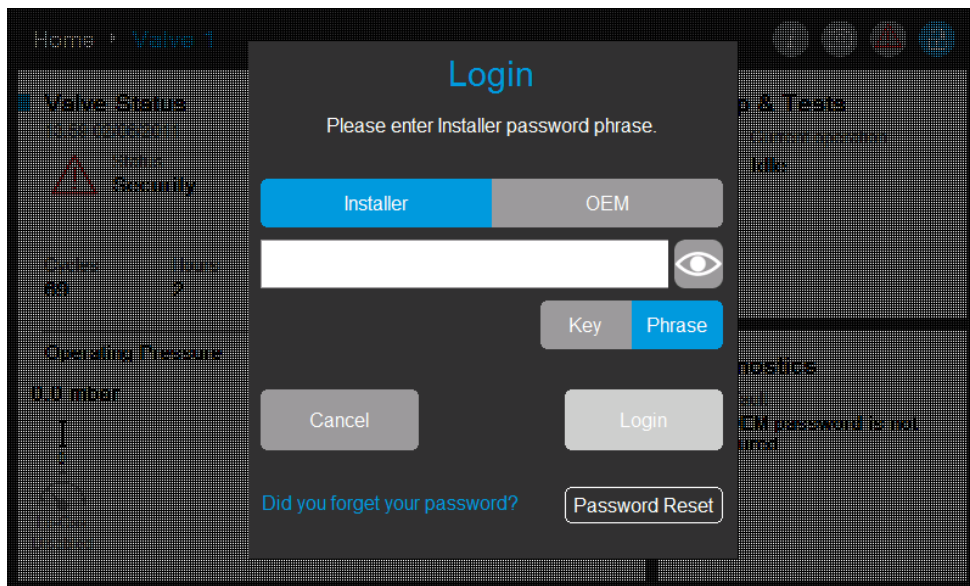

Fig. 82: Login dialog box.
- Enter the new password by selecting the blank field and entering it when the keyboard pops up. Refer to Fig. 82.
- Follow the password configuration sequence as illustrated in Fig. 76-Fig. 82.